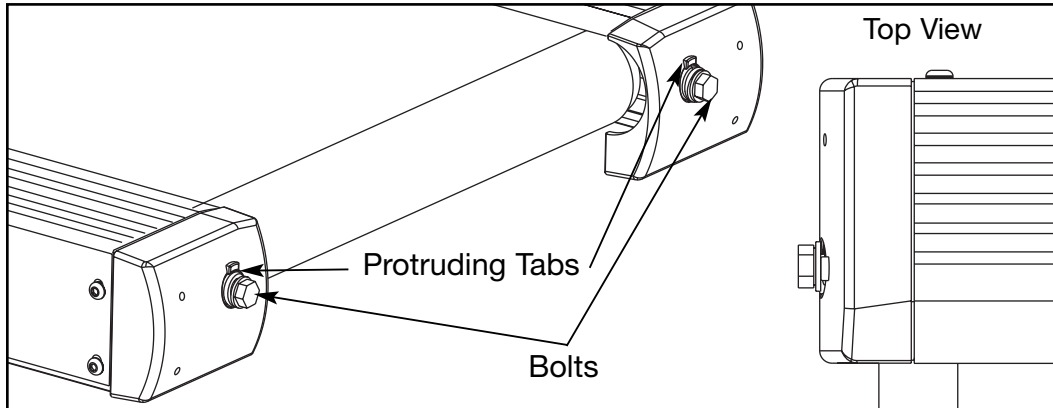

Figure 1
The running belt may become loose and slip on the drive roller with each foot plant. The 900T is equipped with visual indicators of belt tension. These are located at the rear of the treadmill where the two 3/4" bolts protrude from the plastic end caps. See Figure 1. These are designed to indicate if the running belt is at the proper tension to insure safe operation of the unit. If the belt has become loose, the silver colored washer located under the bolt will move out slightly from the protruding tab molded in the end cap. See the *Service Schedule* in this chapter to determine the minimum recommended checking of the belt tension.
- A.** Use a 3/4" wrench to turn each bolt clockwise until the silver washers are flush with the protruding the tab on the end caps. See Figure 1.